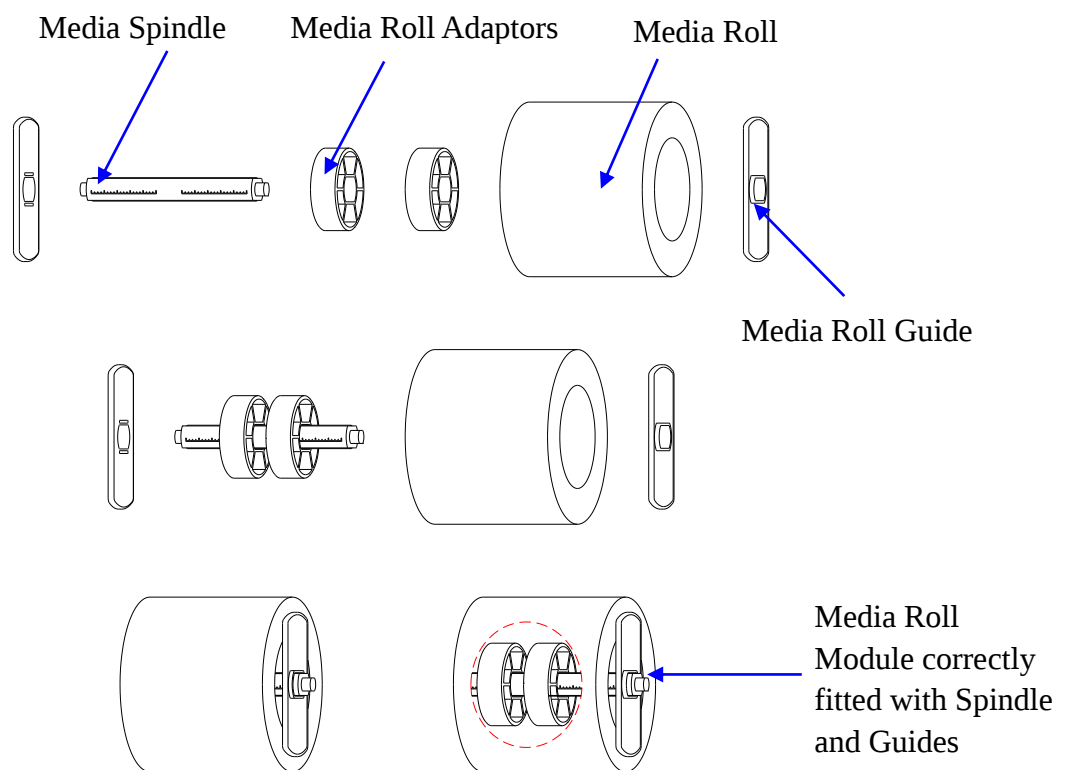

Figure 2-10 Place Media Roll on Media Spindle
3. Load a roll of media (labels facing up) on the Media Spindle, then slide the two Media Roll Guides, with smooth sides facing toward the media, onto the Media Spindle from each end until both Media Roll Guides touch the media. When placing a roll of media with a 3" ID core, please slide the two Core Adapters onto the Media Spindle first, as shown in Figure 2-10.